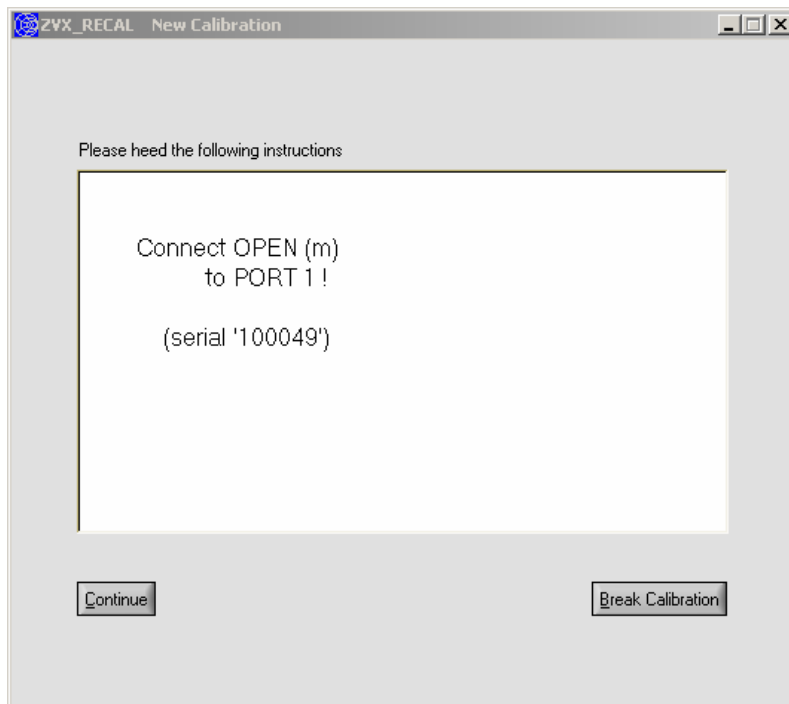

Fig. 6-5 Prompt to connect the first calibration standard
- Initiate the calibration by pressing the **Start** button. A window like the one in Fig. 6-5 will appear with a prompt to connect the first calibration standard